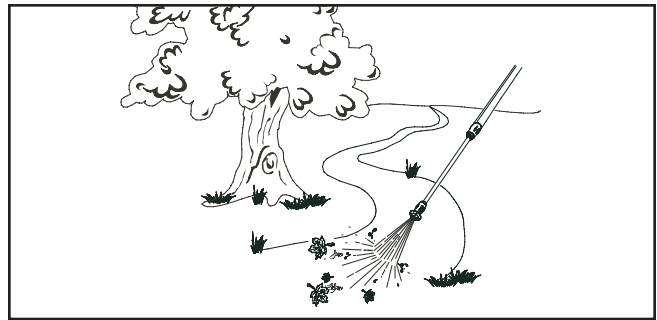

Figure 24— Testing the Spray Pattern
2. Point nozzle down towards a firm surface and press trigger to test pattern (see Figure 24).